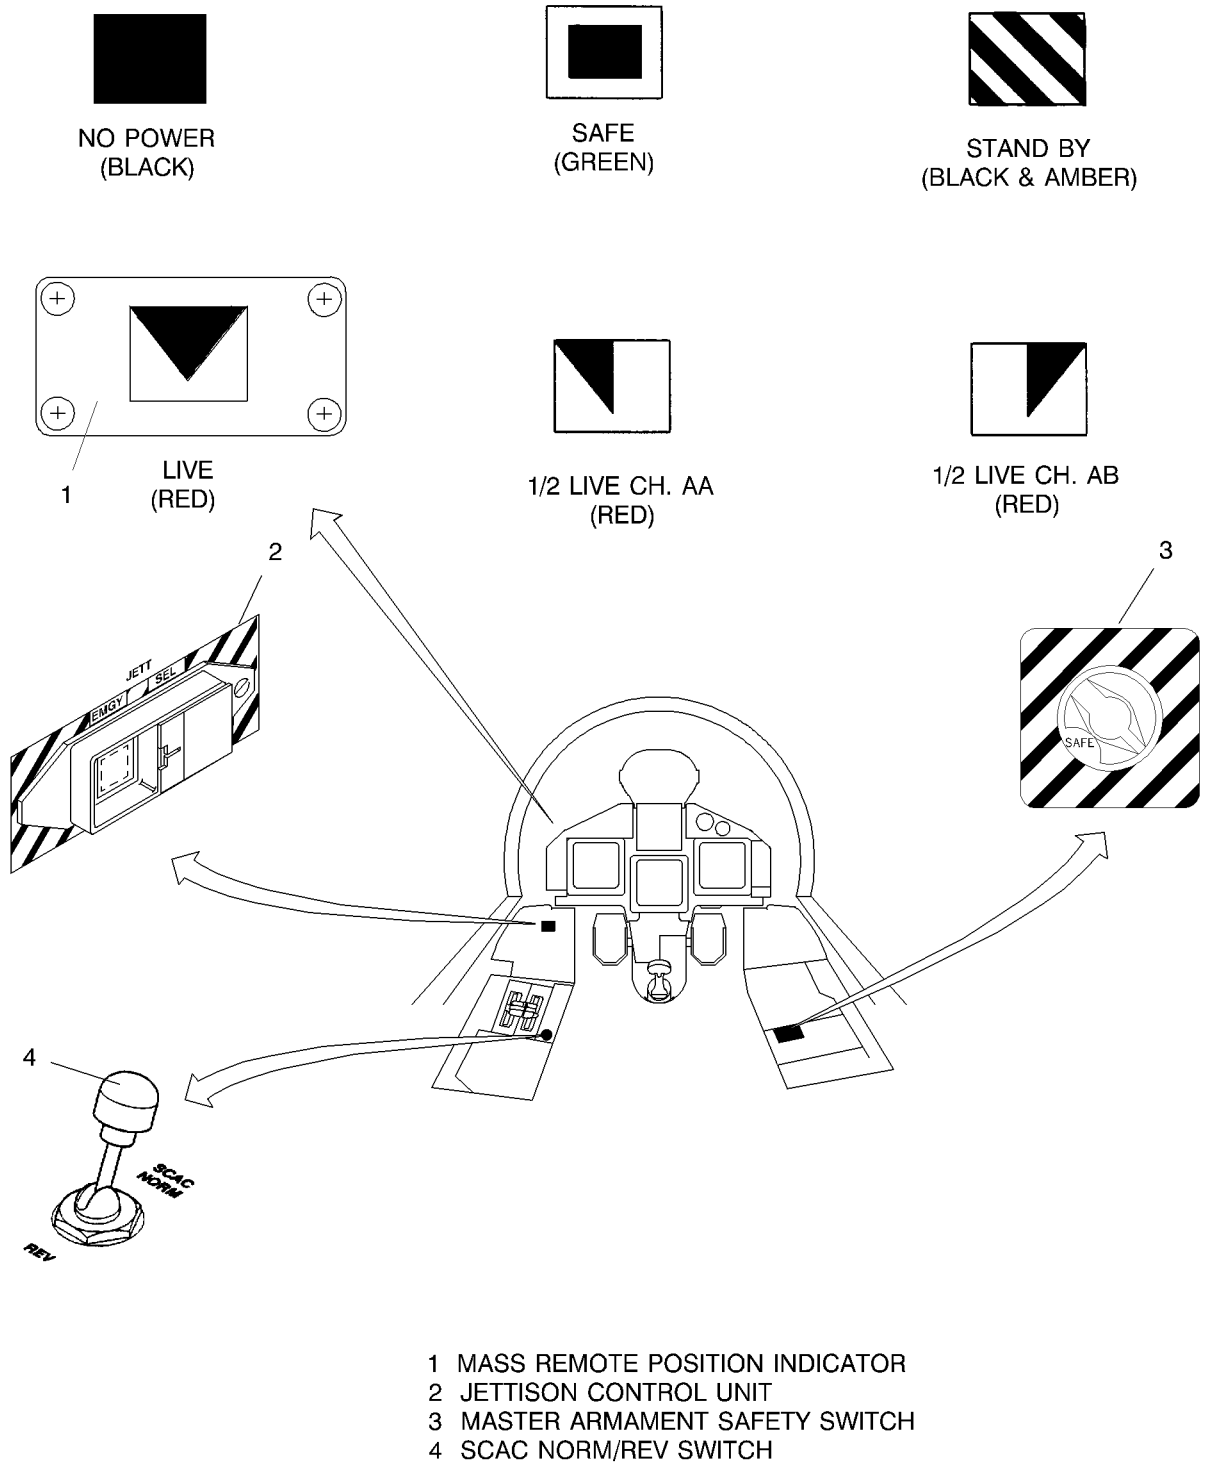

Figure 8.77 - Weapon System - Controls and Indicators
- Master Armament Safety Switch (MASS) Figure 8.77
- Remote MASS Position Indicator Figure 8.77
- SCAC Norm/Rev Switch Figure 8.77
- Jettison Control Unit Figure 8.77
When electrical power is unavailable (unpowered) the MASS Remote Position Indicator window legend is a black square. Figure 8.77